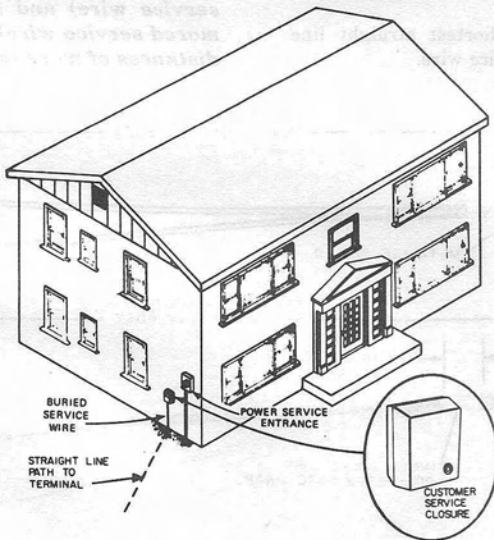

Fig. 13—Recommended Location of Station Protector
4.13 Locate station protectors on exterior building walls following the guidelines listed below (Fig. 13):